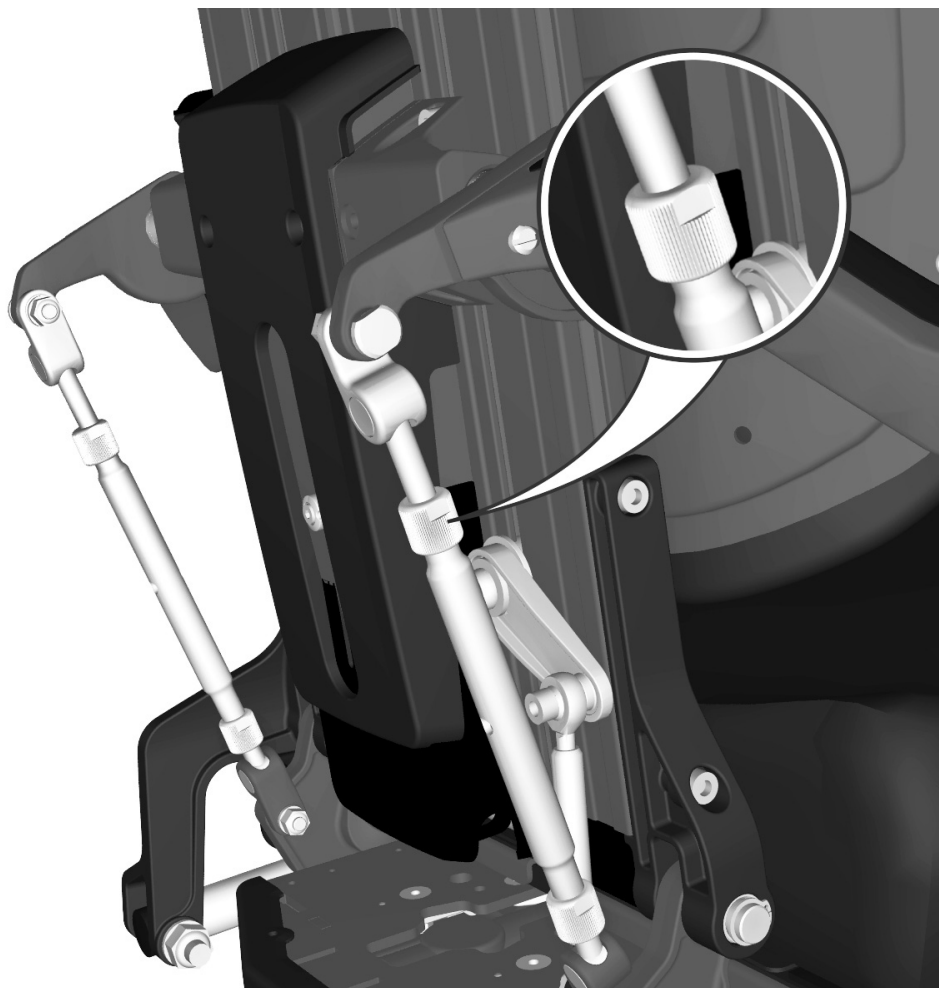

Figure 257. Adjust the armrest angle by turning the adjustment bars. The position of the adjustment bars are fixed by a check-nut
1. Loosen the check-nut on the adjustmentbar in question. See fig. 257.
2. Adjust the armrest angle by turning the adjustment bars. See fig. 257.
3. Fix into desired position by tightening the check-nut. See fig. 257.